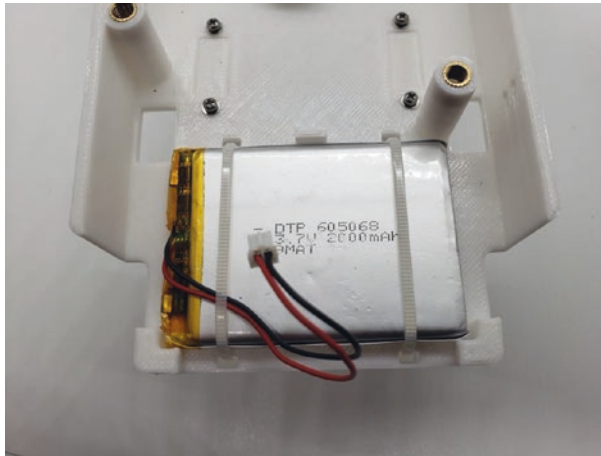

Figure 8-56. *Attach the battery to the chassis using two zip ties*
12. Put the battery into the battery holder and use the two zip ties to secure it to the NatBot chassis. See Figure 8-56.